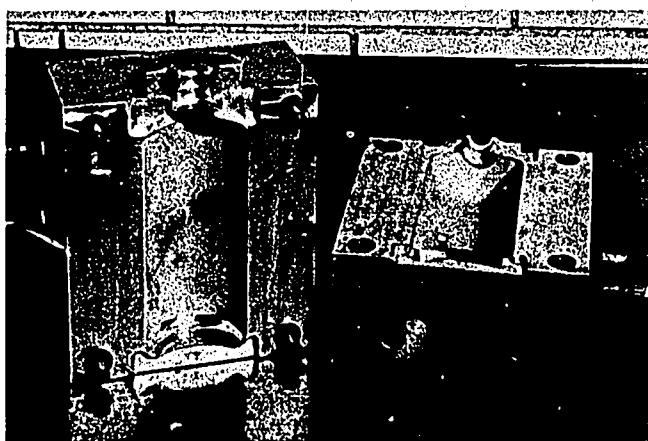

Fig. 25-1. When high-speed production is needed, special tooling is often used. This blowing mold is used in the production of a plastic bottle.
3. Designing and ordering any machines, tools, and equipment which must be specially made, Fig. 25-1.